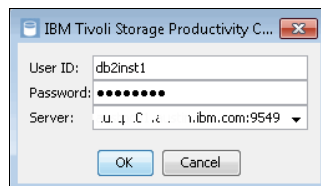

Figure 9-31 Tivoli Storage Productivity Center login access
2. Use your login credentials to access Tivoli Storage Productivity Center, as shown in Figure 9-31.